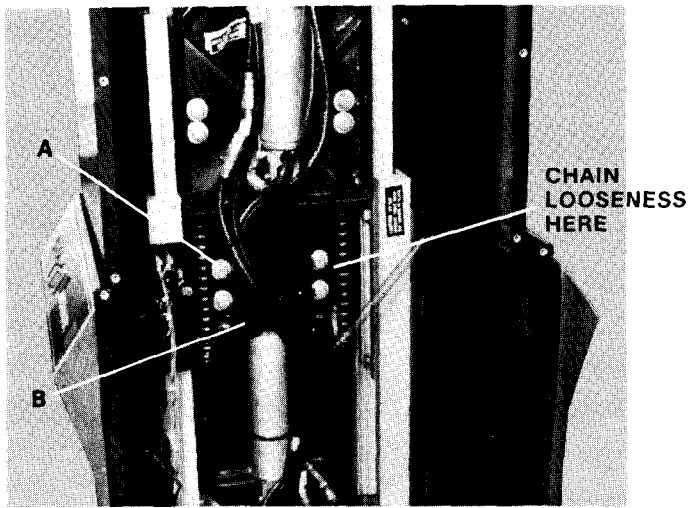

Fig. 32
Excessive sideways play of the table may be due to loose chains. Chains looseness will be noticed only on the lower portion of the chain loop near the idler sprockets (see Fig. 32). Adjustments may be done as follows:
- 3) Loosen the (4) bolts, Item A, Fig. 32, with a 9/16" wrench.
- 4) Insert a prybar or large screwdriver in the center of the slot, Item B, Fig. 32, and pry up firmly. While prying up, tighten the (4) bolts, Item A, Fig. 32. The chains should not be drum tight, but with a little spring back and there should be equal tension in both chains.